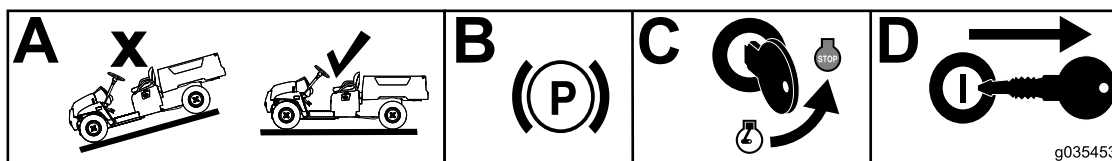

Figure 1
1. Move the machine to a level surface (box A of Figure 1).
2. Engage the parking brake (box B of Figure 1).
3. Shut off the engine (box C of Figure 1).
4. Remove the key from the ignition (box D of Figure 1).